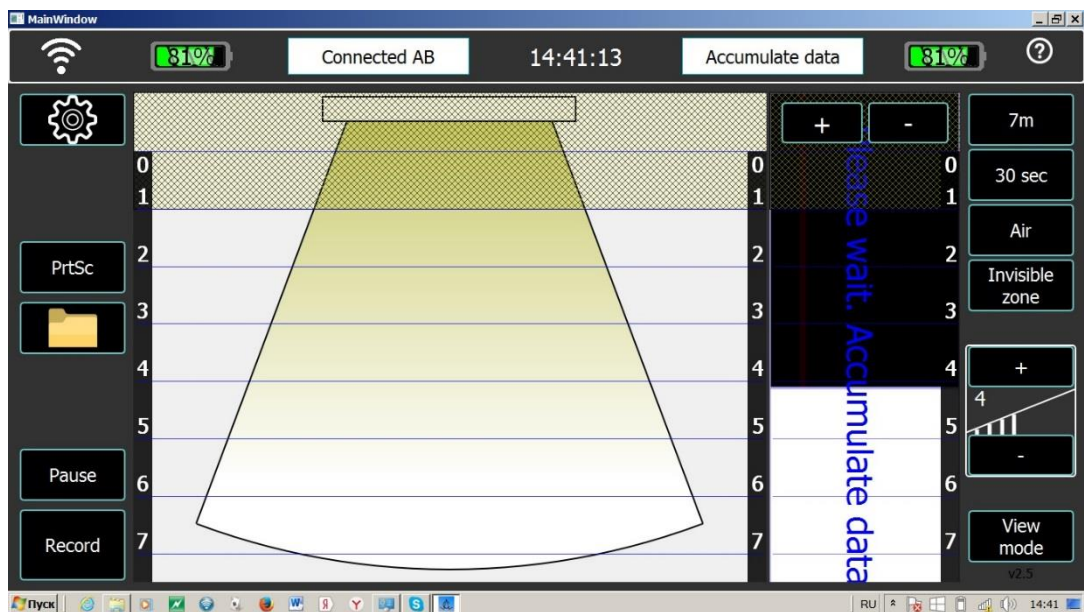

Figure 4.3. Main window of radio detector device program
5. Further, the radio detector device switches over to data analysis mode (Figure 4.3). Zone of the reflected signal spectrum presentation goes into the analysis time indication mode, and the filling time of this zone corresponds to the time of analysis. There is an additional caption, which shows up in the same zone: «Please wait. Data under acquisition»